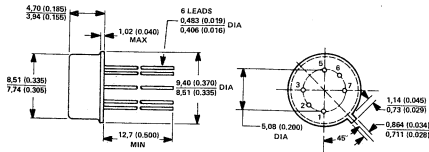

FIGURE 5. Dimensions of the TIL102/TIL103
4. Small size. The dimensions of these devices enable them to be used on standard printed-wiring boards. The TIL102/TIL103 and TIL120/TIL121 are built in a metal can similar to a transistor package. The physical dimensions of these packages are shown in Figures 5 and 6.